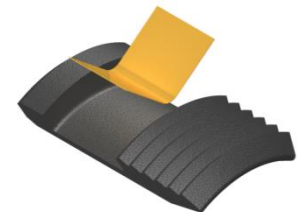

Fig. 4
**NOTE7:** Install one (1 ea) spring per slip (Fig. 4).